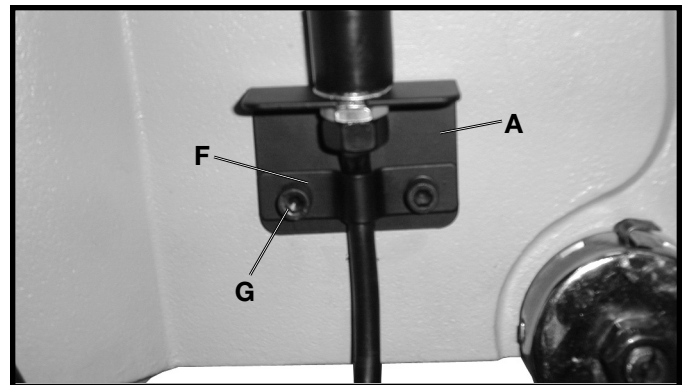

Fig. 18
20. Align the two holes in the lamp cord bracket (F) Fig. 18 with the two holes in the lamp bracket (A) and drill press head.
21. Place a 1/4" washer onto a M6x1x12mm cap head screw. Insert the screw (G) Fig. 18 through the hole in the cord strain relief bracket and the lamp bracket and thread the screw into the drill press head. Repeat this process for the remaining hole in the cord strain relief bracket and tighten both screws securely.